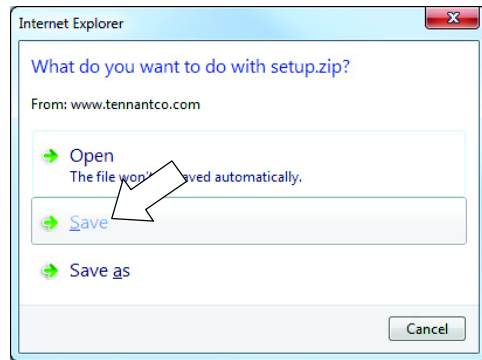

FIG. 9
- Click the Save button. (Fig. 9)